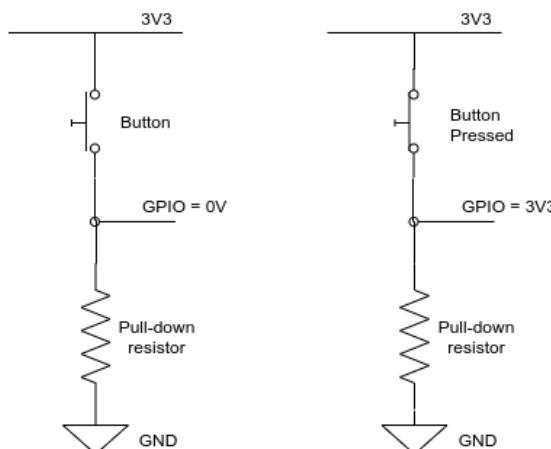

Figure 8.9: Input pin with an internal pull-down resistor
The GPIO input pin can be configured to detect the voltage and trigger the code when the voltage reached the desired level. However, the GPIO input pin by itself will not stay at either 0V or 3V3. It will be in a floating state where its voltage is between 0V and 3V3, which makes it prone to false-trigger. Gladly the Raspberry Pi has an internal resistor that can be configured to keep the GPIO pin at 0V or 3V3. This is the resistor tagged as "Pull-down resistor" and "Pull-up resistor" in Figure 8.9 and 8.10. When you enable the pull-down resistor, it will connect the pin to the ground, thus pulling the voltage down to 0V. When you enable the pull-up resistor, it will connect the pin to an internal 3V3 voltage source and pulling the voltage up to 3V3.
1. Configure the GPIO pin to use an internal pull-down resistor, so it stays at 0V. Connect one end of the button to the GPIO input pin, the other end to the 3V3 voltage source. When the button is pressed, the GPIO pin is short-circuited with the 3V3 source, so its voltage is drawn up to 3V3. (Figure 8.9)